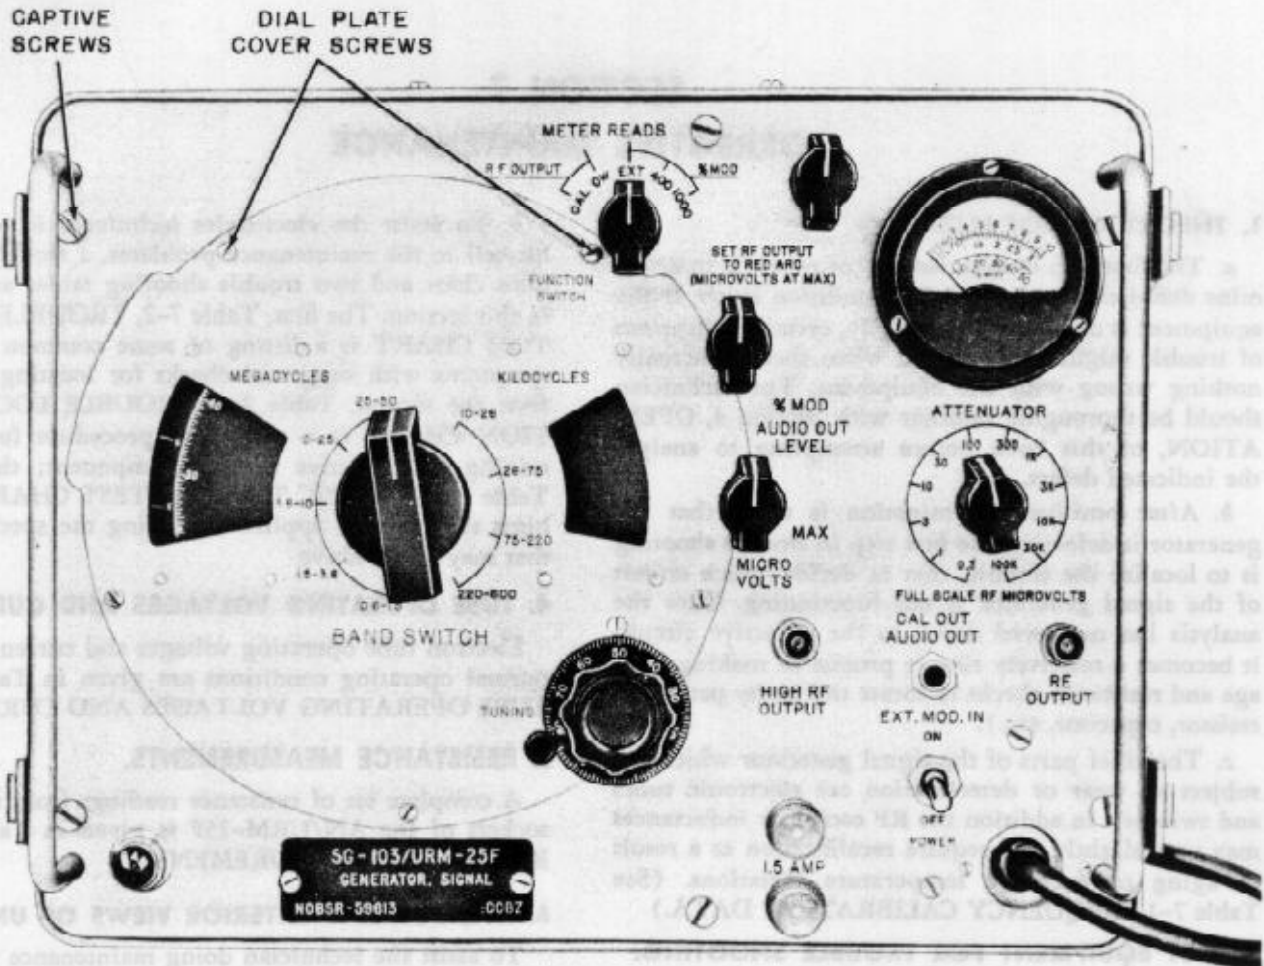

Figure 7-2. RF Signal Generator AN/URM-25F Front Panel
7. REMOVING THE SIGNAL GENERATOR FROM THE CASE. (See figure 7-2.)
(1) Loosen the six captive screws located around the outer edge of the panel. See figure 7-2.
(2) Gently pull the signal generator chassis about eight inches from the cabinet, using the lifting handles provided on the front panel. The generator unit cannot be completely removed since the interconnecting power cable is still connected to the power supply.
(3) Remove the power supply cable by pulling the power plug out of the power supply socket on the power supply sub-chassis. The generator may now be